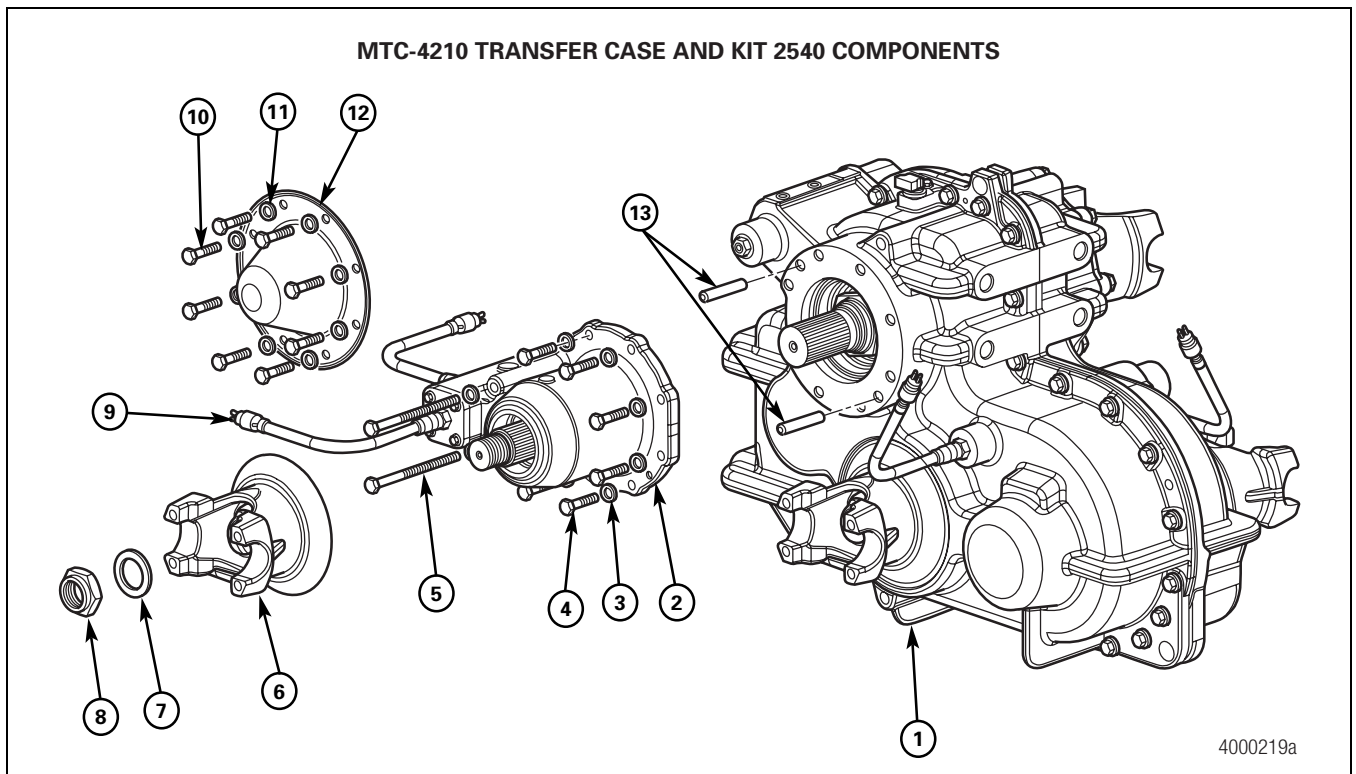

Figure 7.2
4. Remove the eight mounting bolts and washers that secure the transfer case rear access cover. Remove the cover. Figure 7.2.
1. Use a press and an applied press force of 500-1500 lbs (227-680 kg) to install a Meritor yoke, spline code RAI, onto the PTO shaft. Figure 7.2.
2. Apply a thin coating of Loctite® 518 gasket sealant to the entire PTO flange mounting surface. Figure 7.2.